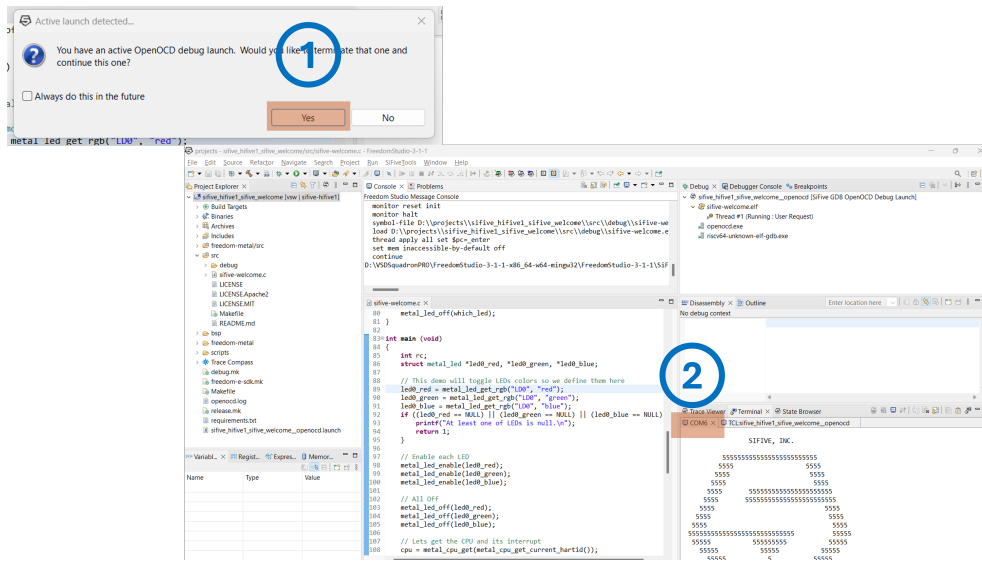

Figure 13: Run program and see output
- If you see a message "You have an active OpenOCD debug launch. Would you like to terminate that one and continue this one?" as shown in Figure 13, click on "Yes". Finally, you would see "SiFive" as output in the Com terminal represented by 2 in same Figure 13. The blue LED on VSDSquadron PRO should blink after this step.